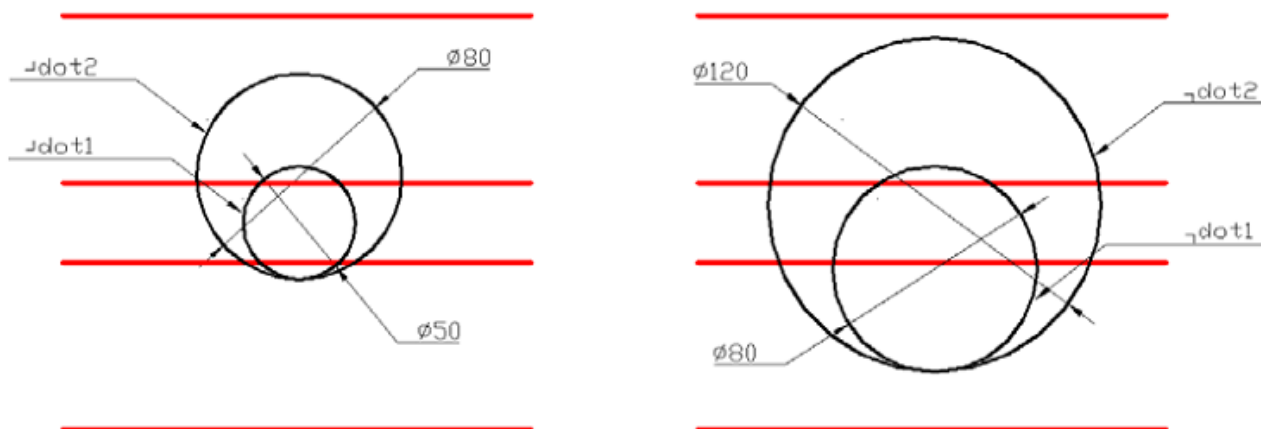

Figure 4-3
- edge measurement emendation: don't place any measured good in the measure area, put the menu interface switch to “dot0” and “dot0”, at the same time press “up key” and “down key” to affirm the measure area. put the menu interface switch to “dot1”、“dot2”、“dot1”、“dot2” in turn. Put the stardand stick into the measure area(see figure 4-3), emendate the value of master bar according to the one axes emendation method, and save.